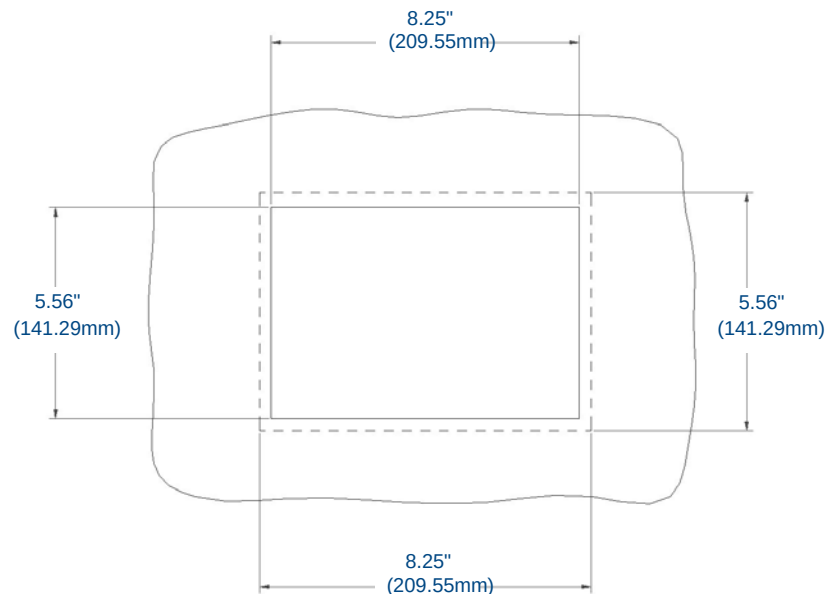

FIG. 6 Recommended cutout for plastic back box
1. Cut a hole into the wall or surface intended to hold the box. The outer lip of the back box is sized 8.69 inches (220.66mm) long and 6.0 inches (152.4mm) high, so the hole should be at least 1/4" (6.4mm) smaller in each dimension (FIG. 6).